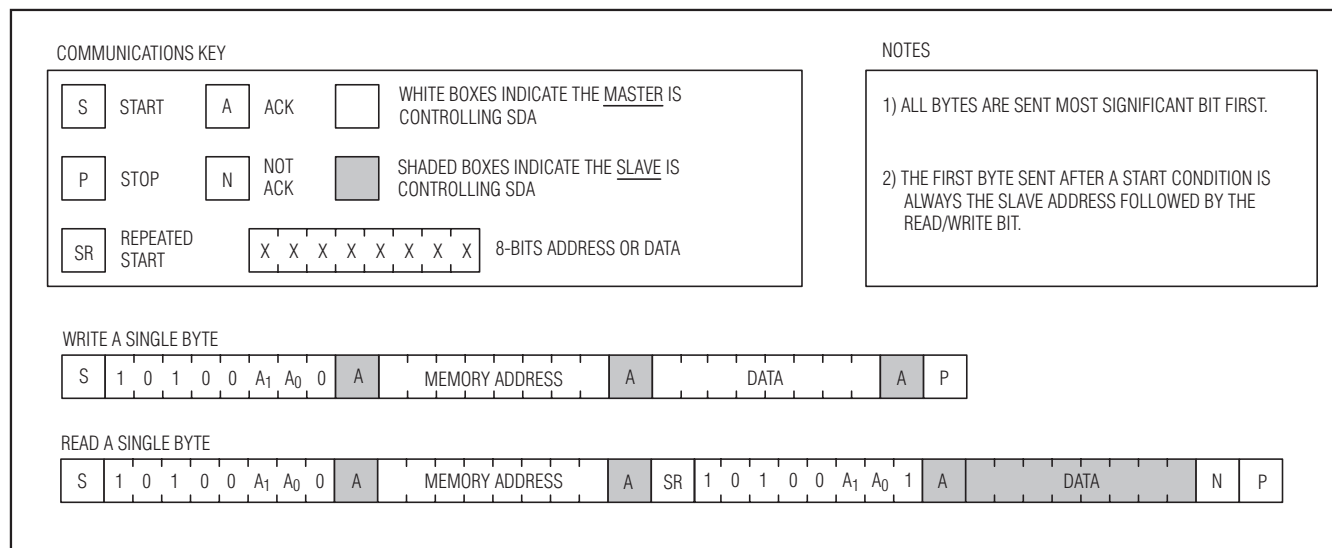

Figure 11. I2C Communications Examples
**Writing a Data Byte to a Slave:** The master must generate a start condition, write the slave address byte (R/W = 0), write the memory address, write the byte of data, and generate a stop condition. Remember the master must read the slave's acknowledgement during all byte write operations. See Figure 11 for more detail.
**Reading a Data Byte from a Slave:** To read a single byte from the slave the master generates a start condition, writes the slave address byte with R/W = 0, writes the memory address, generates a repeated start condition, writes the slave address with R/W = 1, reads the data byte with a NACK to indicate the end of the transfer, and generates a stop condition. See Figure 11 for more detail.